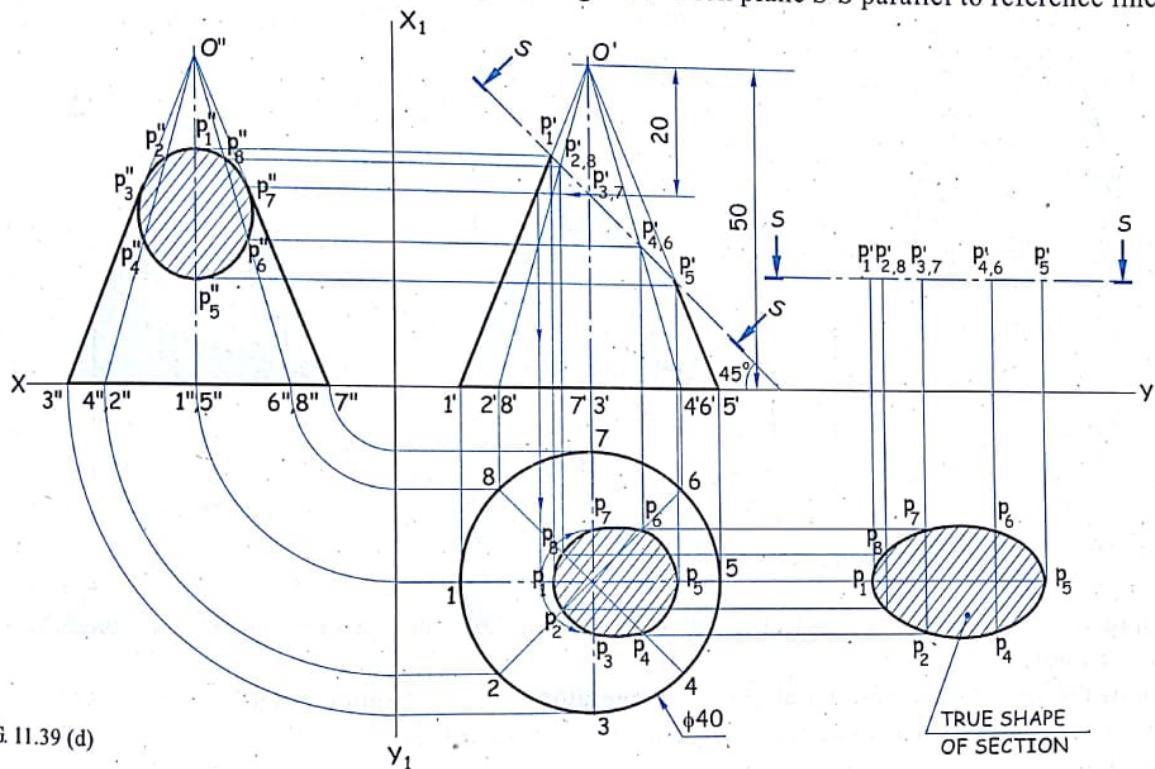

FIG. 11.39 (d)
**Solution (c).** Refer figure 11.39 (d)
- (i) Place the section plane  $S-S$  with points  $p'_1, p'_2, p'_3, \dots, p'_8$  parallel to the  $XY$  line as shown in figure 11.39 (d).